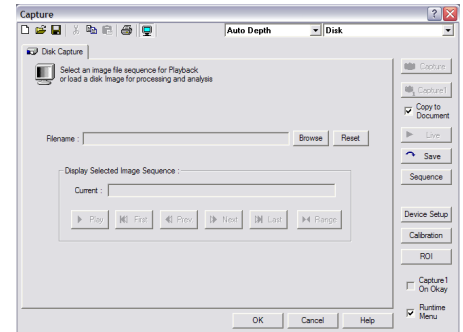

fig.2
3. Click the **Camera icon**, the **Capture window** appears (fig.2).
6. Click **Browse**, (fig.2) locate your data file and click **Open**. The image sequence appears in the **Image Display**.